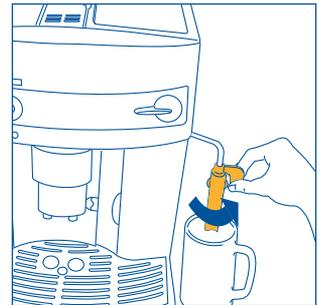
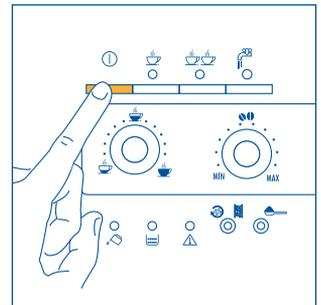
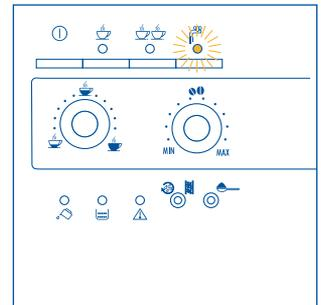

Fig.3
Fig.4
Fig.22
2. Move the milk frother towards the outside and place a cup underneath (Fig.3). Then turn the machine on by pressing the  button (Fig.4).
- Turn the cappuccino frother towards the outside of the machine (Fig. 3).
- Position a container underneath the milk frother (Fig. 3).
- Move the cappuccino frother outwards (fig. 3).
- Place an empty container under the cappuccino frother (fig. 3). Turn the steam knob a half turn counter-clockwise as far as it will go (the  light flashes fig. 22). Run off the steam mixed with water for a few seconds until only steam is given off.